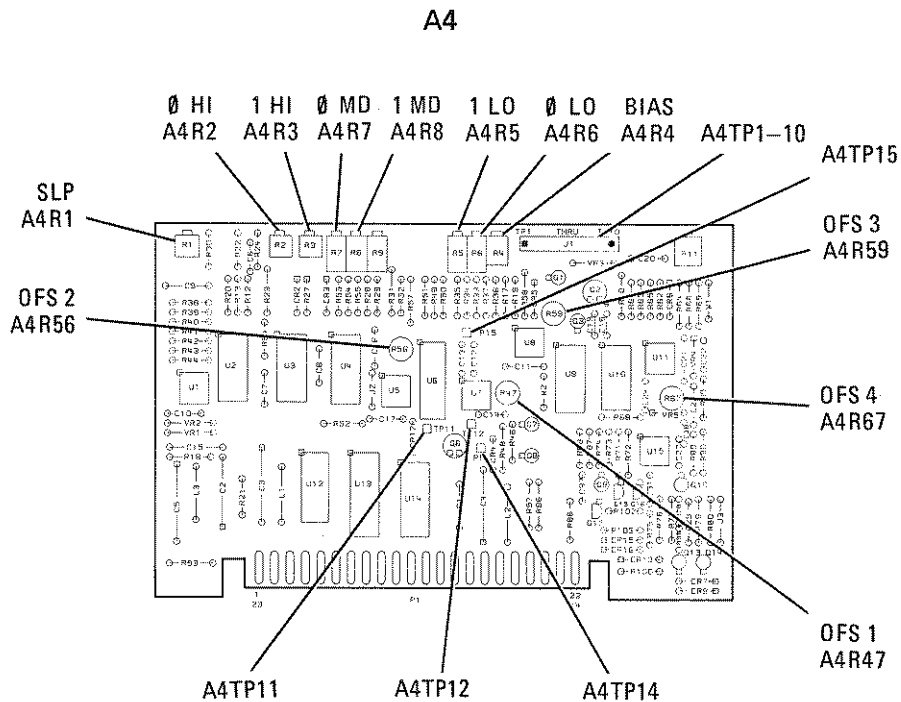

Figure 5-30. ALC Adjustment Locations
2. Float the ground on the Digital Voltmeter and measure the voltage between A4TP12 and A4TP14. Refer to Figure 5-30 for adjustment locations. Adjust A4R47 (OFS 1) for  $0.000 \pm 0.001$  Vdc.